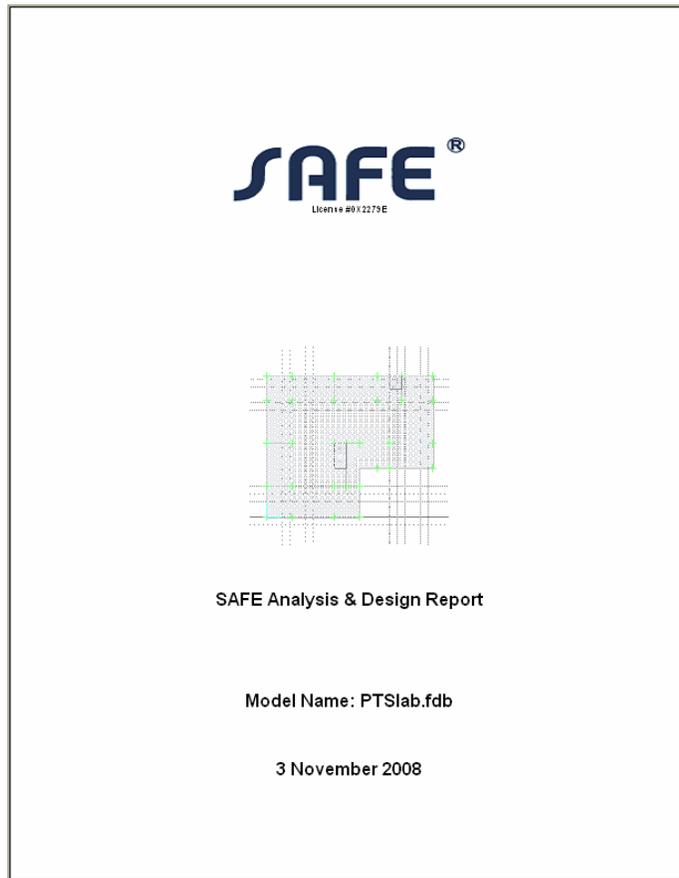

Figure 96 Cover Page for Report
- F. Type **PTSLAB** in the File name edit box and click the **Save** button. A report, with a cover similar to that shown in Figure 96 should be displayed in your word processor, and will be saved to your hard disk.